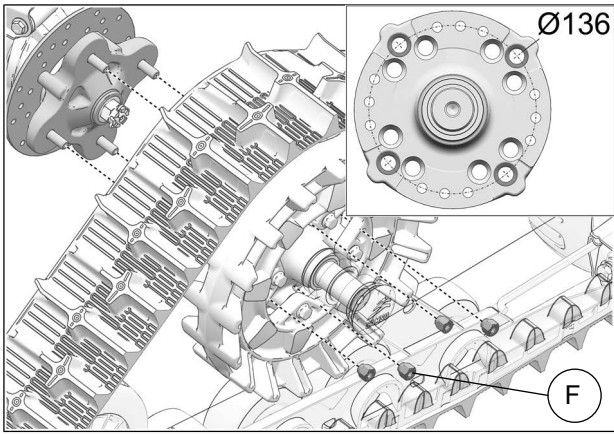

Fig. 9
- Secure undercarriage to rear hub & spacer using the provided M10 lug nuts (F). Use bolt circle 136mm. See Fig. 9